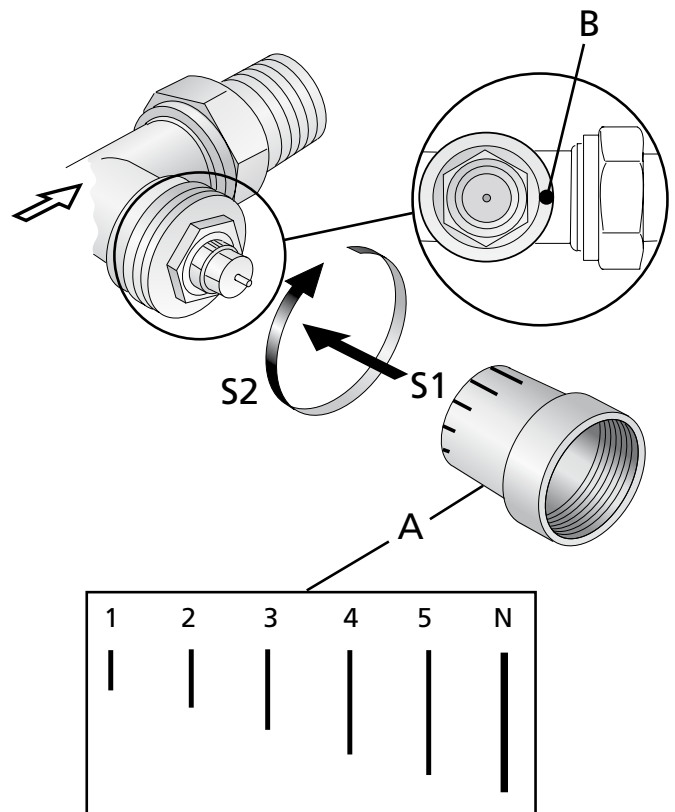

Figure 1. Adjustment of the k_v -value.
- Setting modes are indicated by the reference marks on the valve's protective cover, see figure 1.
- Each k_v -value is marked with lines in different lengths on the protective cover (A), see figure 1 and the table setting modes – k_v -values.
- Turn the protective cover (S2) until the required reference mark (A) aligns with the mark (B) on the valve's outlet side.
- On delivery the valves are set fully open (position N), see figure 1.